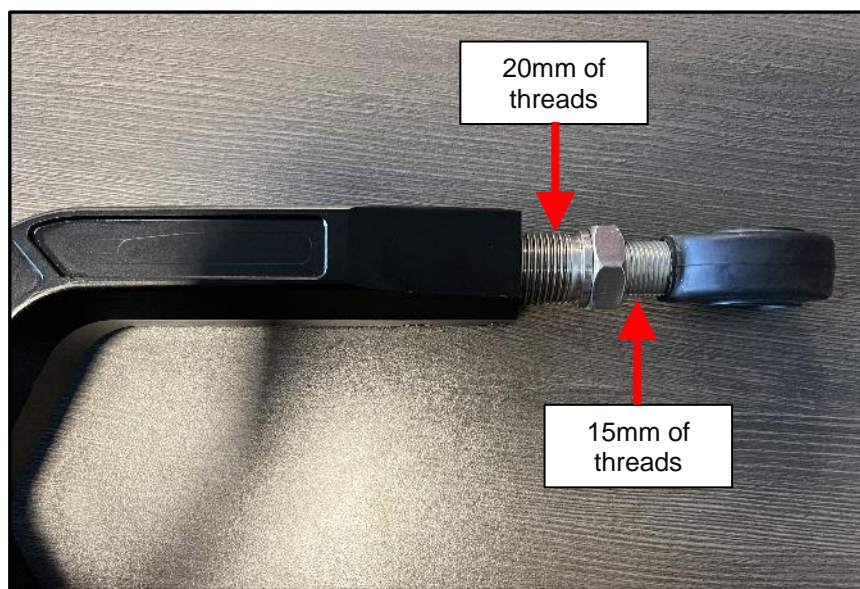

Figure 9
30. The maximum safe extension of the Adjuster and Heim Joint is 20mm of exposed threads on the Adjuster and 15mm of exposed thread on the Heim Joint End. *Figure 9*.